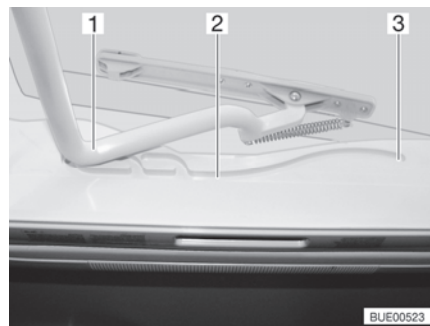

Fig. 21 Guide (Heki skylight)
- Pull the bar (Fig. 21,1) in the guides (Fig. 21,2) to the rearmost position (Fig. 21,3).
- Use both hands to push the bar (Fig. 21,1) slightly upwards.
- Pull the bar in the guides (Fig. 21,2) to the desired position.